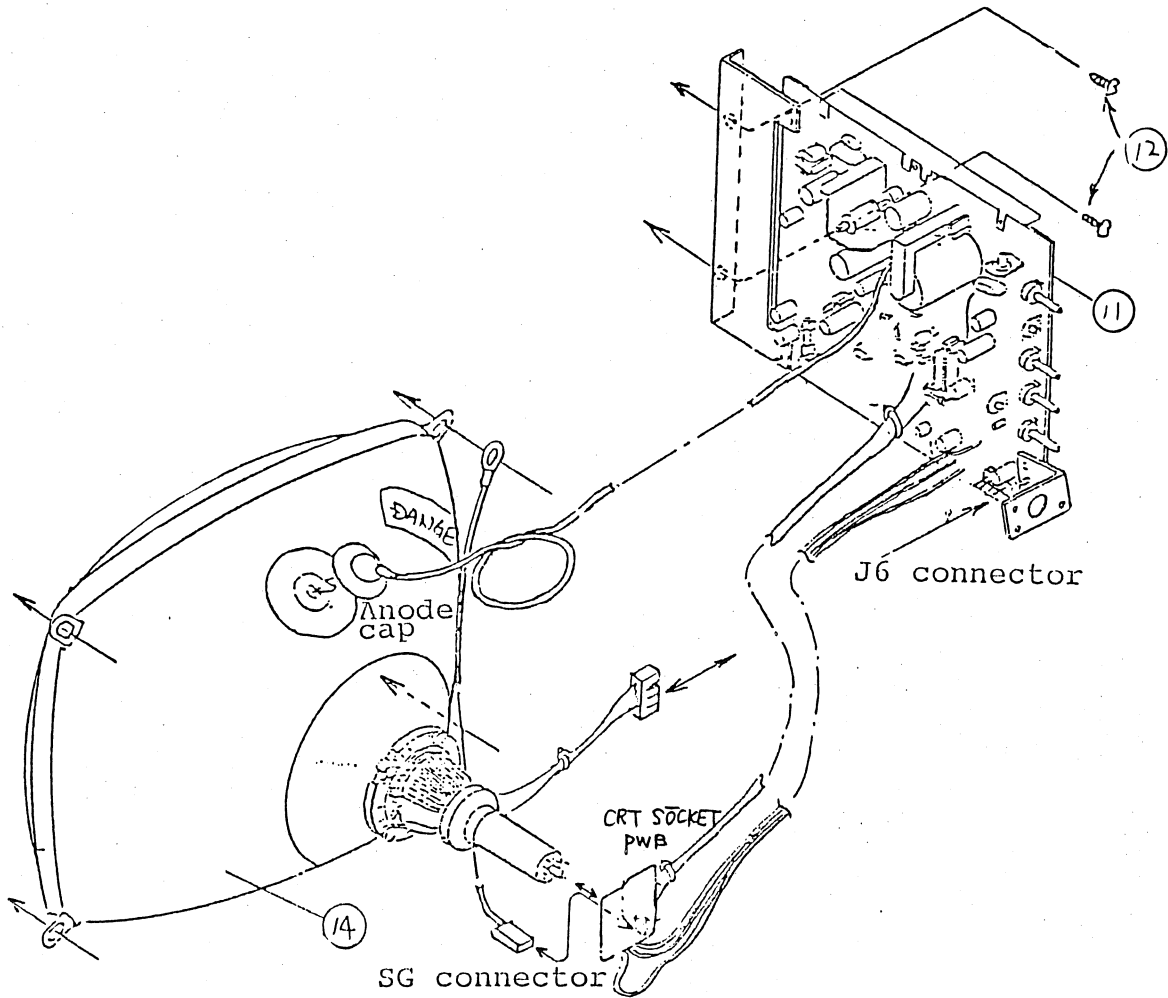

Fig. 6-1-5 Removal of Monitor PWB
(See Fig. 6-1-5.)
- (2) Remove the SG connector (3P) of the CRT SOCKET PWB. (SEE FIG. 6-1-5.)
- (3) Pull out the CRT SOCKET PWB from the CRT neck.
- (4) Remove the J1 connector (3P), J3 connector (5P), and J5 connector (2P) on the monitor PWB.